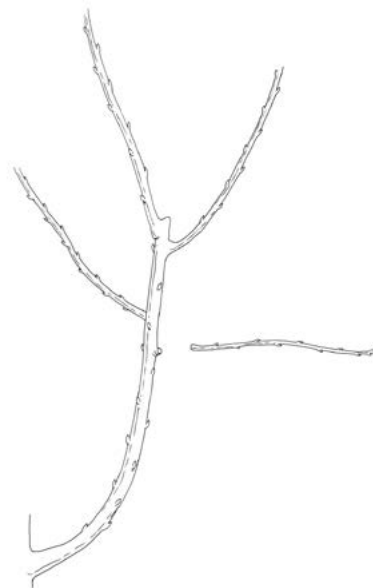

Figure 31
- On semi-vigorous rootstocks, leave moderately growing branches and prune out thin, weak branches (Figure 31).